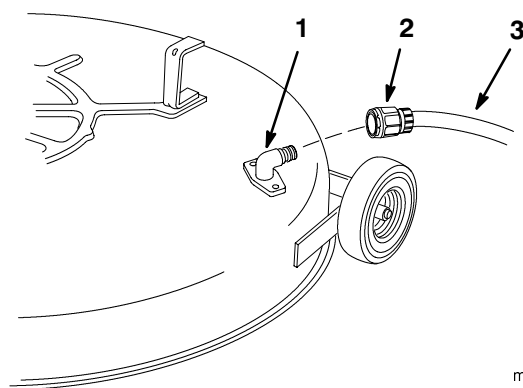

Figure 50
2. Attach the hose coupling to the end of the mower washout fitting, and turn the water on high (Fig. 50).